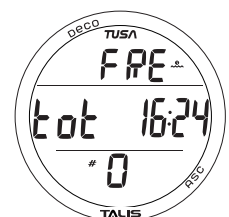

Fig. 4 - FREE MODE SURFACE MAIN
- >> FREE (Fig. 4) is used for breath hold activities that do not use SCUBA.